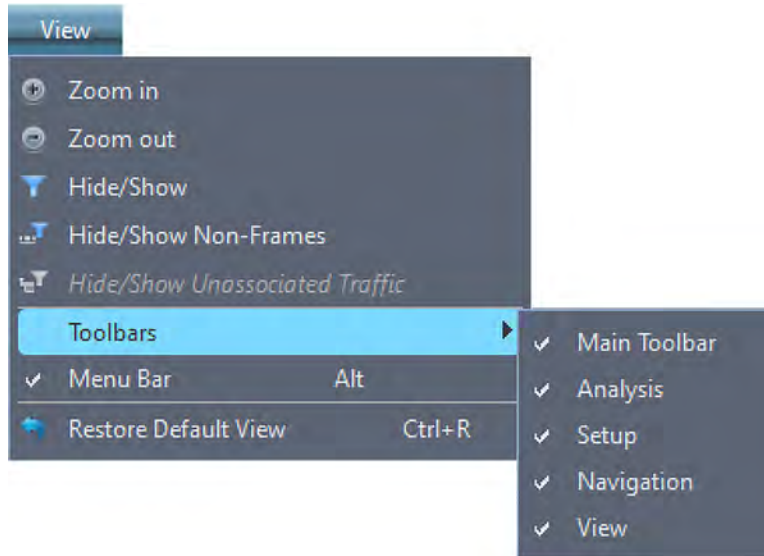

Figure 3.113: View Menu Options
- Toolbars – Allows you to customize the toolbar display (see Figure 3.113).